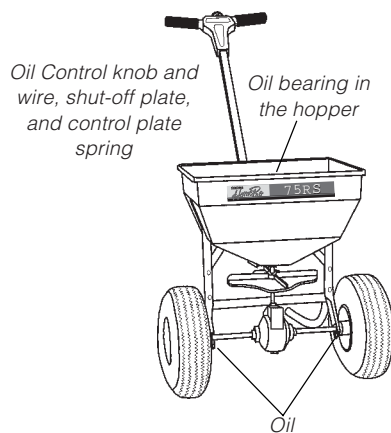

Figure 13
- b. Lightly oil the axle bearings in the frame. See Figure 13.
- c. Apply oil to the impeller shaft bearing in the hopper, pivot points on the shut-off plate, and the spring in the housing behind the control plate. See Figure 13.